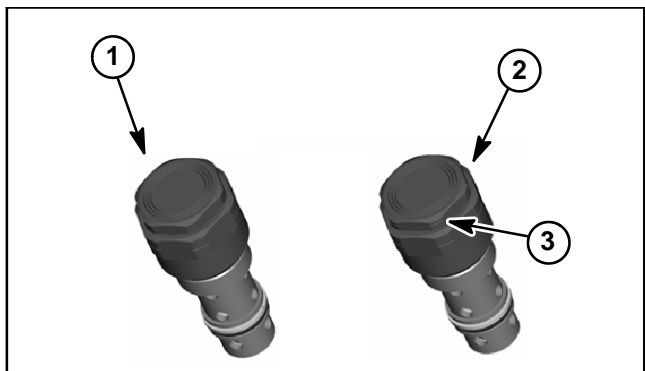

Figure 74
19. Remove forward and reverse relief valve cartridges from center case noting relief cartridge location for assembly purposes. The reverse relief valve cartridges can be identified by the groove in the hex head (Fig. 74).